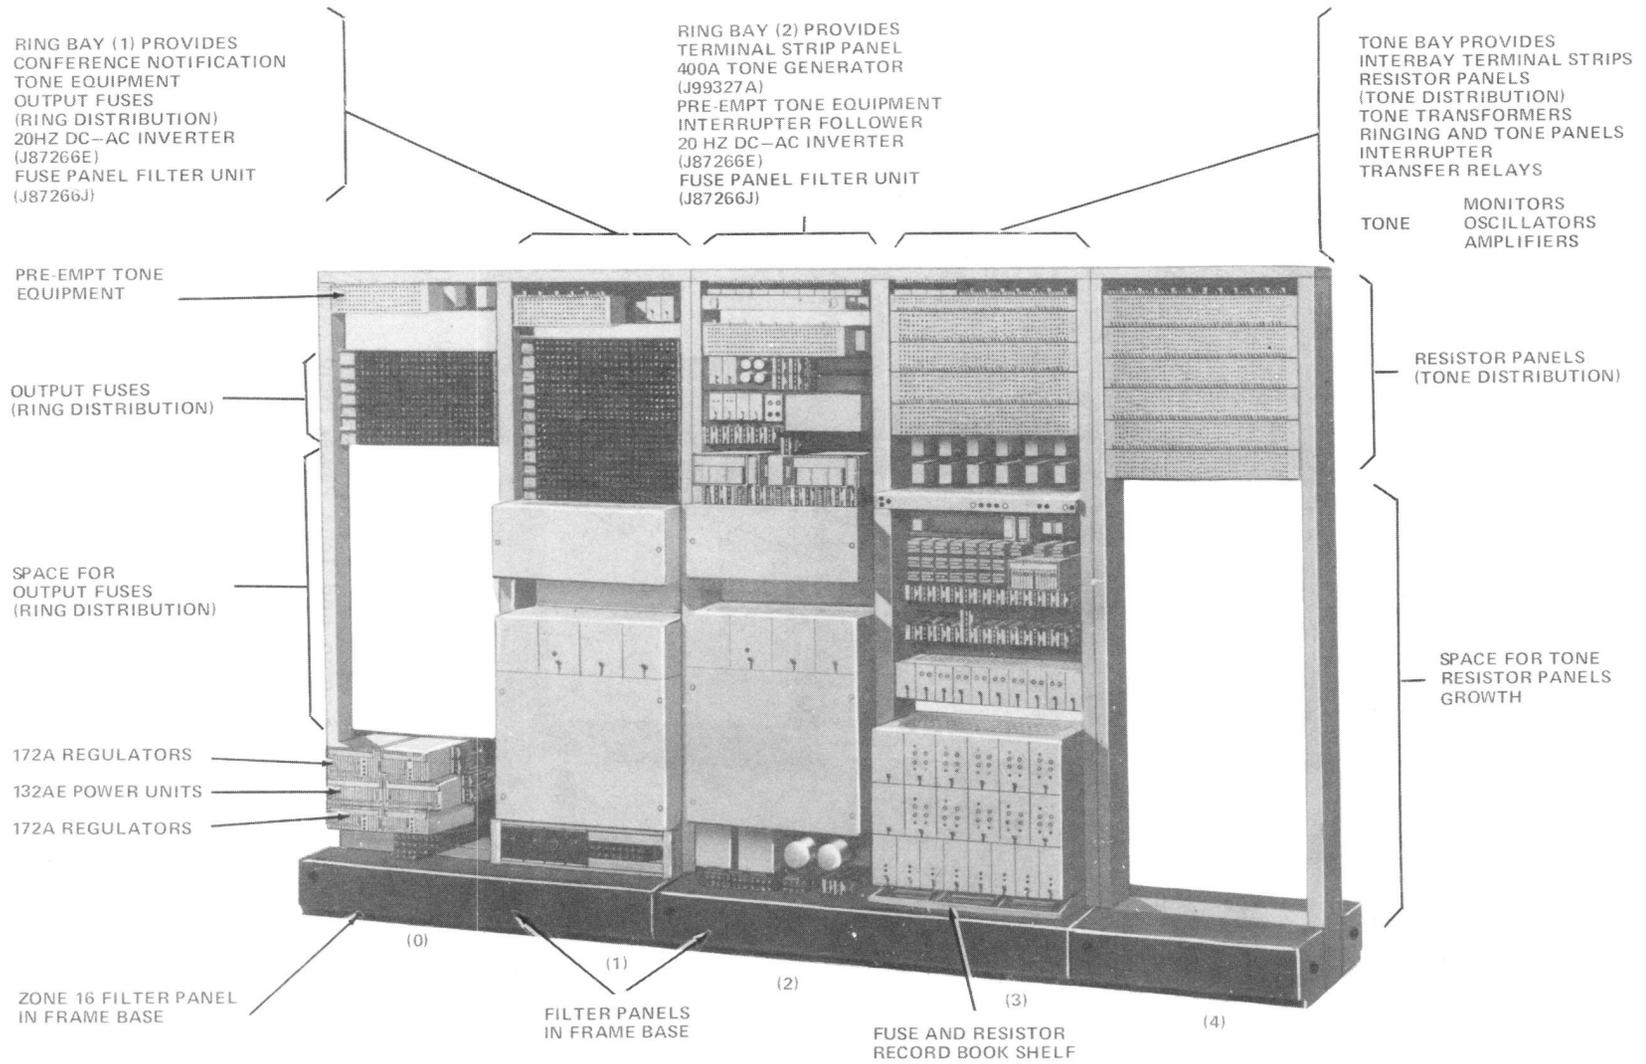

Fig. 2—Fully Equipped 808A Ringing and Tone Plant (Superimposed)
**2.03 *Superimposed Office:*** This office requires two double bays and one single bay located to the right of the double bay in the lineup (see Fig. 2).
**2.15** The solid-state interrupter (see Fig. 2) is located above the control, test, and transfer relays on bay 3. The interrupter provides the interruptions for machine ringing, tones, and signaling.